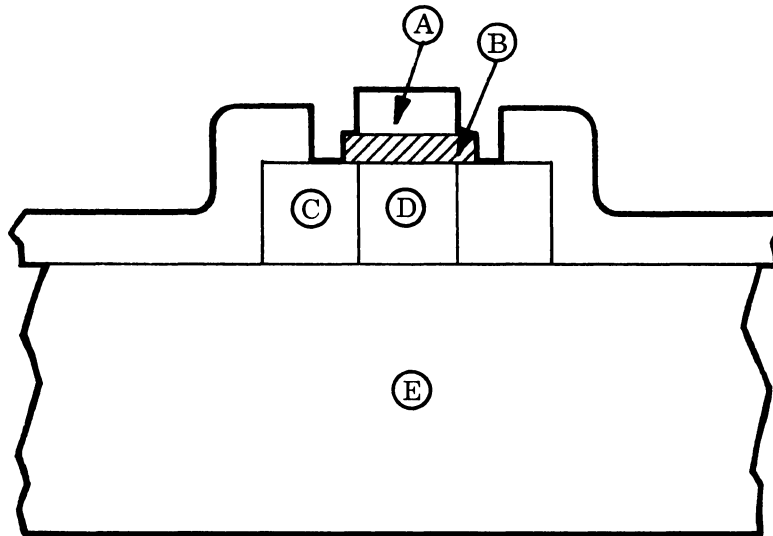

FIGURE 4
8. Identify the lettered items in figure 4 (i.e., metal, N-type material, etc.). Assume the MOSFET shown is a P-channel enhancement type.